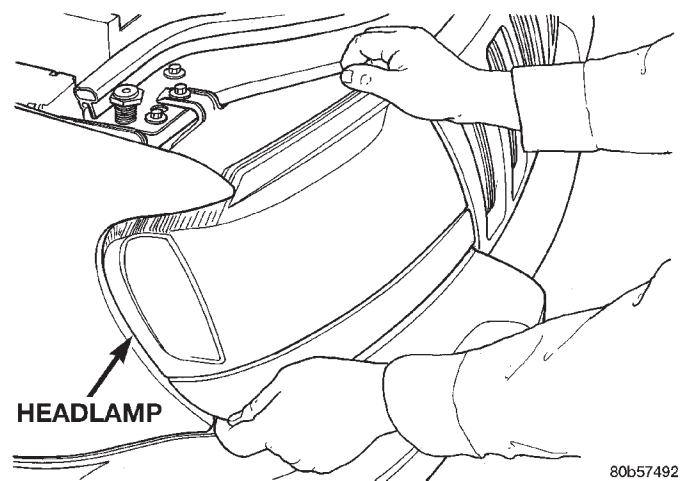

Fig. 3 Removing The Headlamp
- (2) Grasp the corners of the headlamp and forcefully pull the headlamp outward (Fig. 3). This will